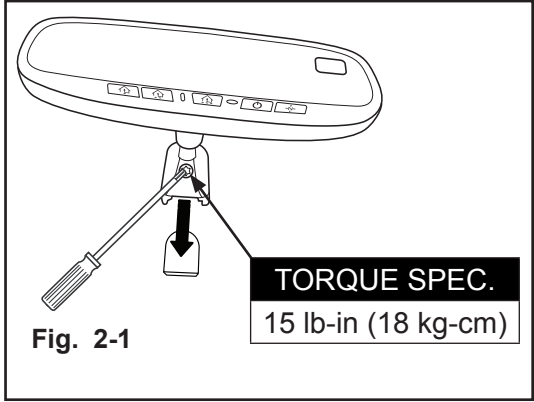

**Fig. 1-5**
- a) Using a #T20 Torx, loosen the mirror mounting bracket screw. (Fig. 1-5)